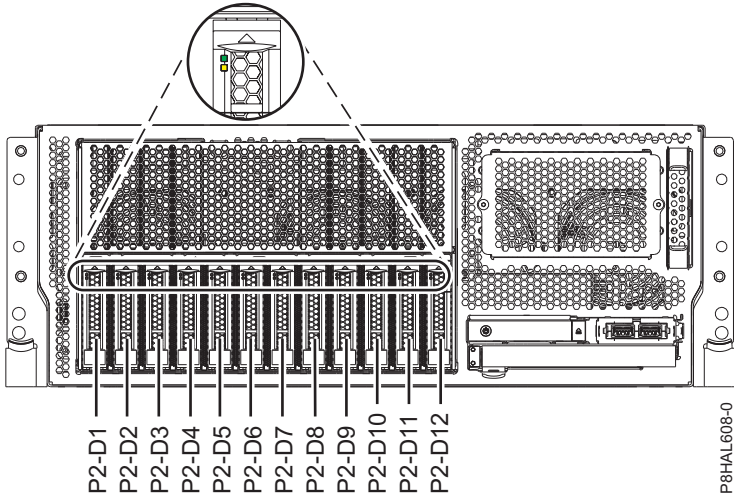
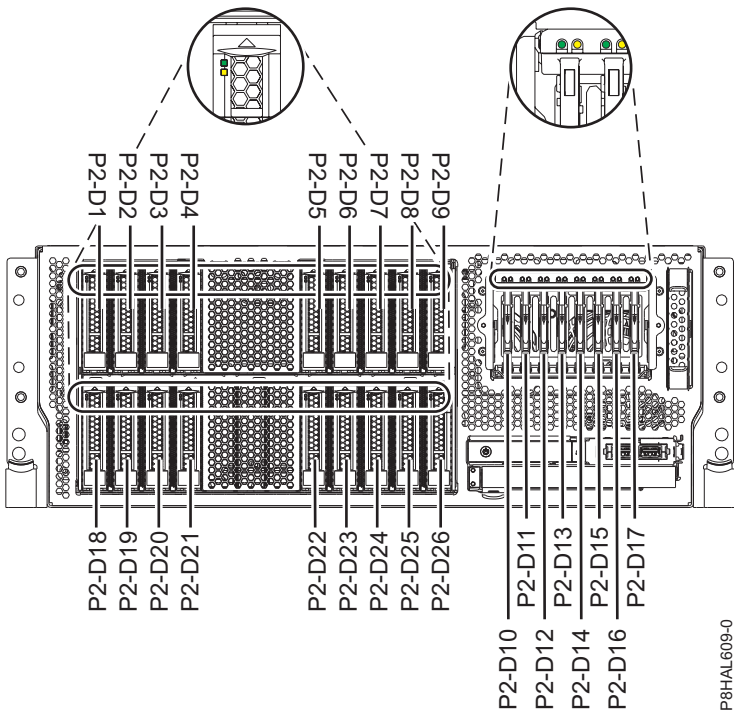

Figure 27. Disk drive or solid-state drive, and service indicator locations in a rack-mounted, base function 8247-42L, 8286-41A, or 8286-42A system
Figure 28. Disk drive, solid-state drive, and service indicator locations in a rack-mounted, expanded function 8286-41A or 8286-42A system
2. Determine the slot in which you want to install a disk drive or an SSD. The disk drive and SSD slots are in the front of a system. More SSD slots are also available in an expanded function system. Figure 27 on page 34 and Figure 28 on page 34 show the disk drive or solid-state drive, and the service indicator locations for a rack-mounted system. Figure 29 on page 35 and Figure 30 on page 36 show the disk drive or solid-state drive, and the service indicator locations for a stand-alone 8286-41A system.